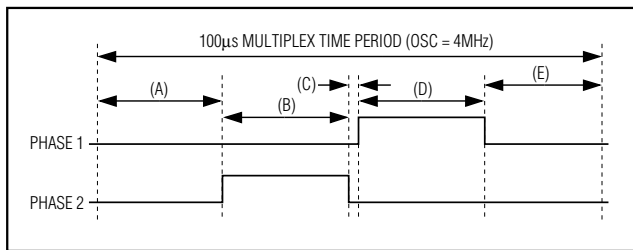

Figure 14. Filament Bridge Driver Timing Waveforms
The waveform generation uses PWM to set the effective RMS voltage across the filament, as a fraction of the external supply voltage (Figure 14) (Table 36). The filament switching frequency is synchronized to the multiplex scan clock, eliminating beating artifacts due to differing filament and multiplex frequencies.
The minimum commutation time, shown at (C) in Figure 14, is set by  $(2/\text{OSC})s$  (500ns when  $\text{OSC} = 4\text{MHz}$ ) to ensure that shoot-through currents cannot flow during phase reversal. Otherwise, the duty cycle of the bridge (total on time: total time) sets the RMS voltage across the filament. This technique provides a low-cost AC filament supply when using a regulated supply higher than the RMS voltage rating of the filament.